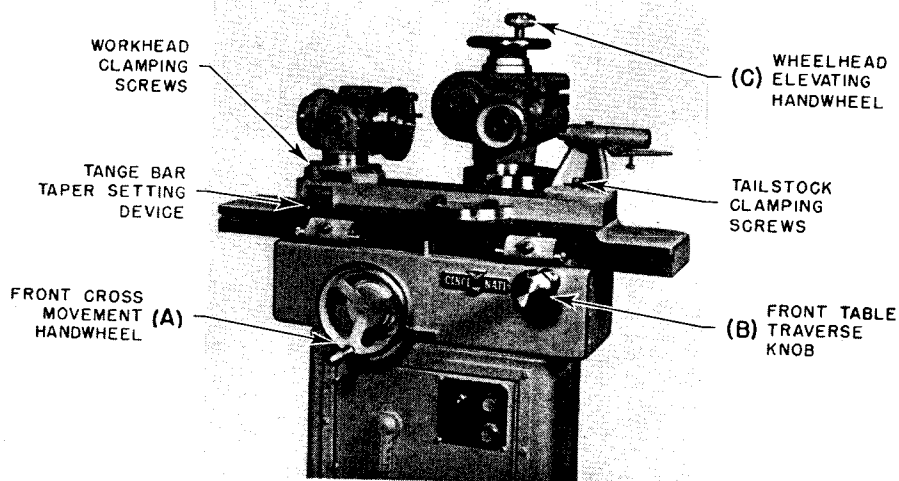
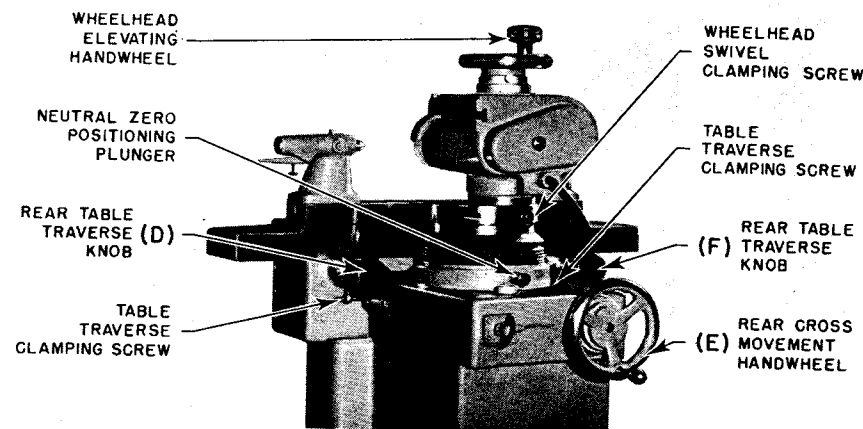

Figure 14A
Figure 15A
**Table Traverse.** Duplicate control knobs enable you to operate the machine at the front, right-hand of the table (Figure 14A); or at the rear, right or left-hand side of the wheelhead column (Figure 15A), depending upon the nature of the job being performed. Front and rear control knobs, (Figures 14A and 15A) are connected directly to the pinion which engages the table rack. The rear control knobs will be used in the majority of operations.
The table slide may be locked in position by tightening either of the two table locking screws (Figure 15A) in the brackets behind the rear control table traverse knobs.
**Cross Adjustment (Wheelhead Slide).** The wheelhead slide is provided with dual control. A pair of handwheels, one at the front and one at the rear (Figures 14A and 15A) allows you to choose the most convenient position for moving the grinding wheel toward or away from the table in position for either surface grinding or cutter sharpening operations. The rear handwheel will be used in the majority of operations.
Clockwise rotation of the Cross Adjustment handwheel (Figure 15A) moves the grinding wheel away from the machine table; while counter clockwise rotation of it moves the grinding wheel toward the table. Counter-clockwise
rotation of the cross adjustment handwheel (Figure 14A) moves the grinding wheel away from the machine table; while clockwise rotation of it moves the grinding wheel toward the machine table. One complete turn of either cross adjustment handwheel moves the wheelhead slide  $\frac{1}{10}$ " or 0.100". The micro-meter dial is graduated into 100 divisions, which is equivalent to 0.001" movement of the wheelhead slide for each division.